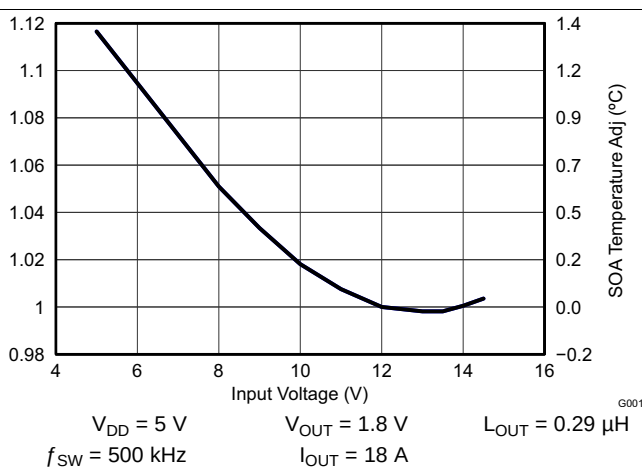

Figure 6. Normalized Power Loss vs Input Voltage
- Normalized power loss for input voltage ≈ 1.05 (Figure 6)
- SOA adjustment for input voltage $\approx 0.6^\circ\text{C}$ (Figure 6)